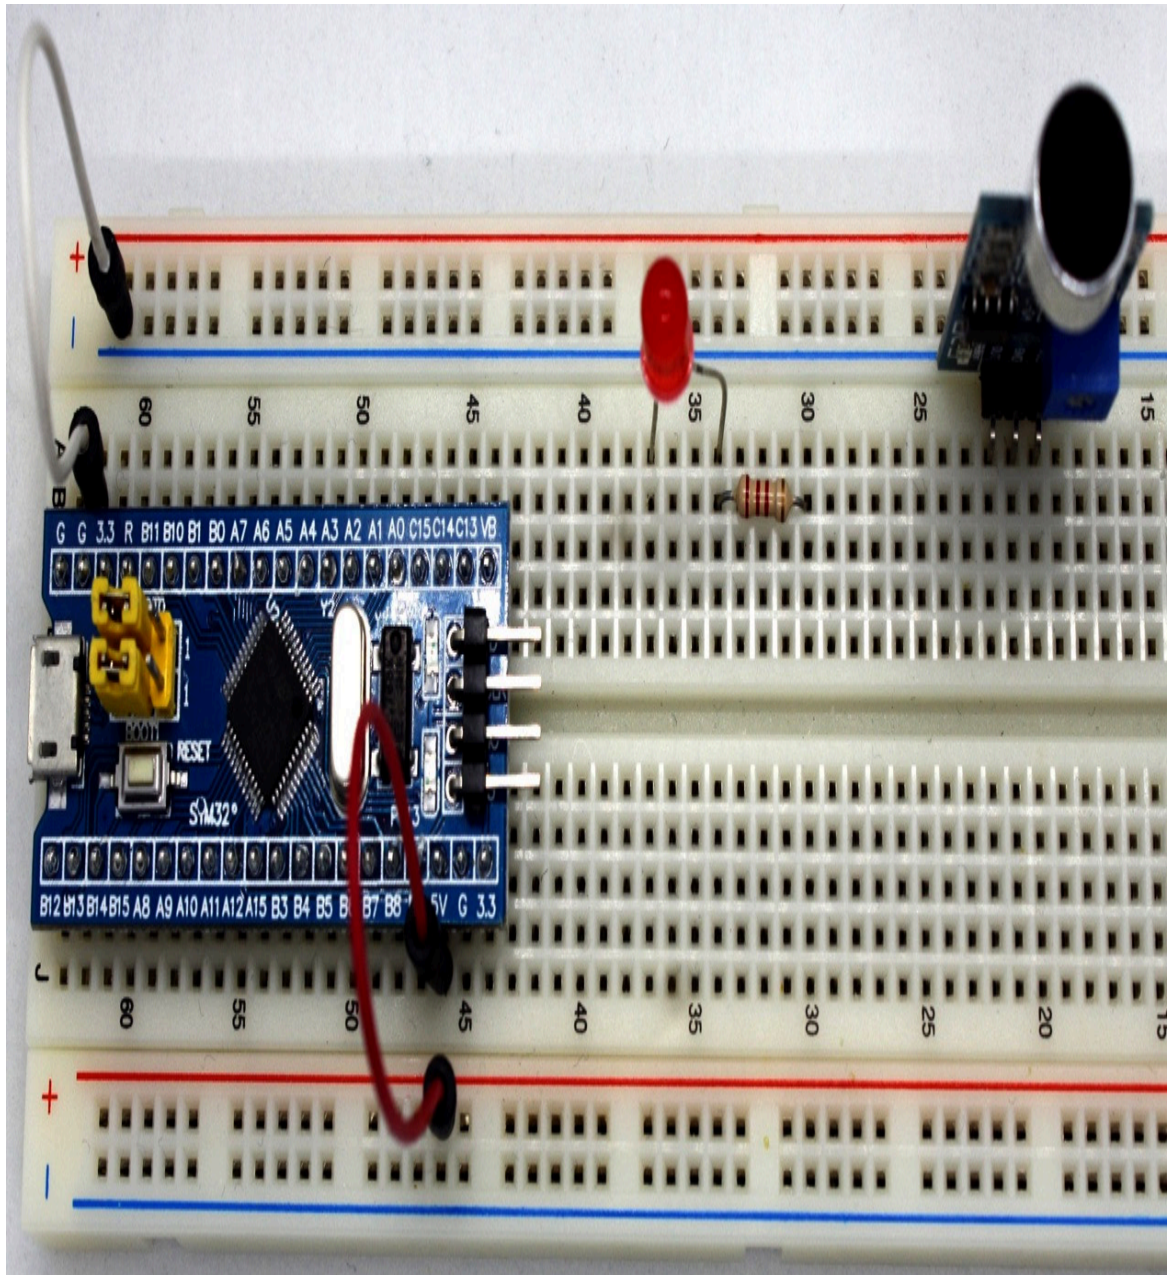

Figure 7.4 – Connections to the power supply
2. Next, to power up the clap switch with an external power source, connect the 5-volt pin to the red rail on the breadboard and a ground pin to the blue track, as shown in the following photo (*Figure 7.4*):